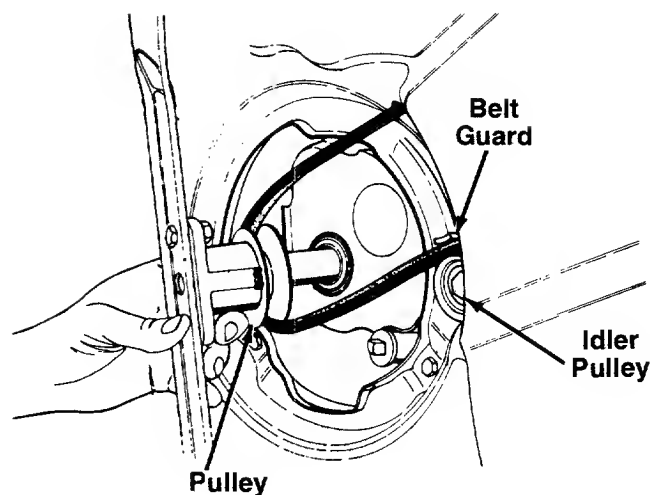

FIGURE 21.
- C. Release the idler pulley so it falls down into position. Slide the belt in between the idler pulley and belt guard on the idler pulley bracket as shown in figure 21.